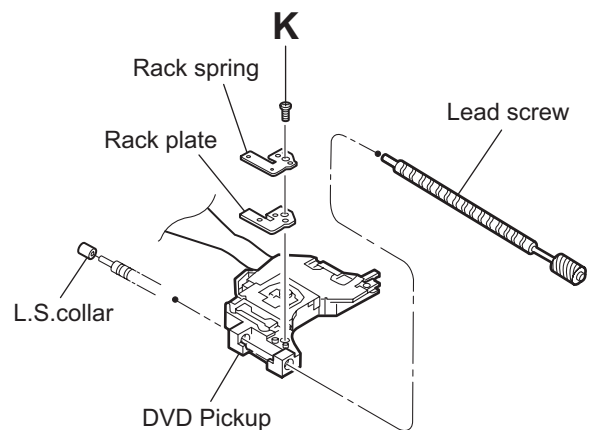

Fig.19
- Remove the screw **K** attaching the rack spring/ rack plate on the DVD pickup. (See Fig.19.)
- Pull out the lead screw. (See Fig.19.)